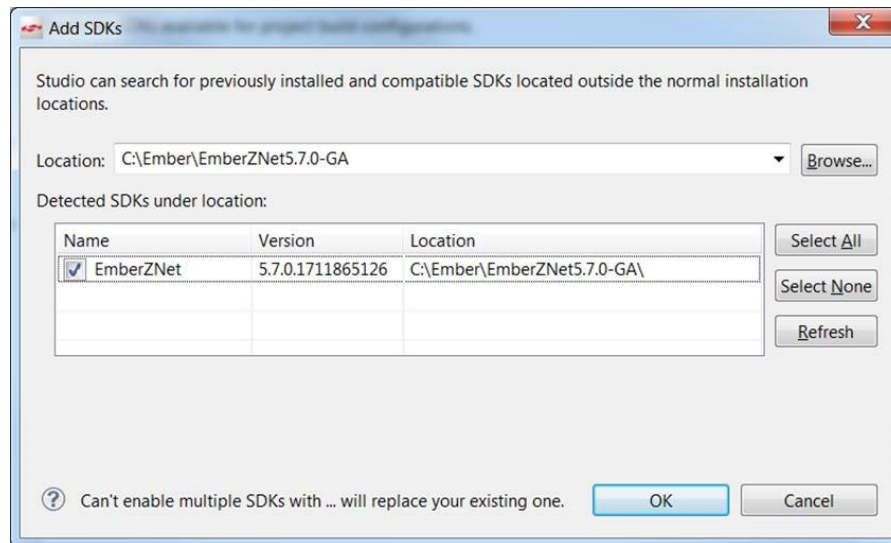

Figure 16. Add SDKs
6. Verify the software has detected the EmberZNet PRO SDK (Figure 16) and click **[OK]**.